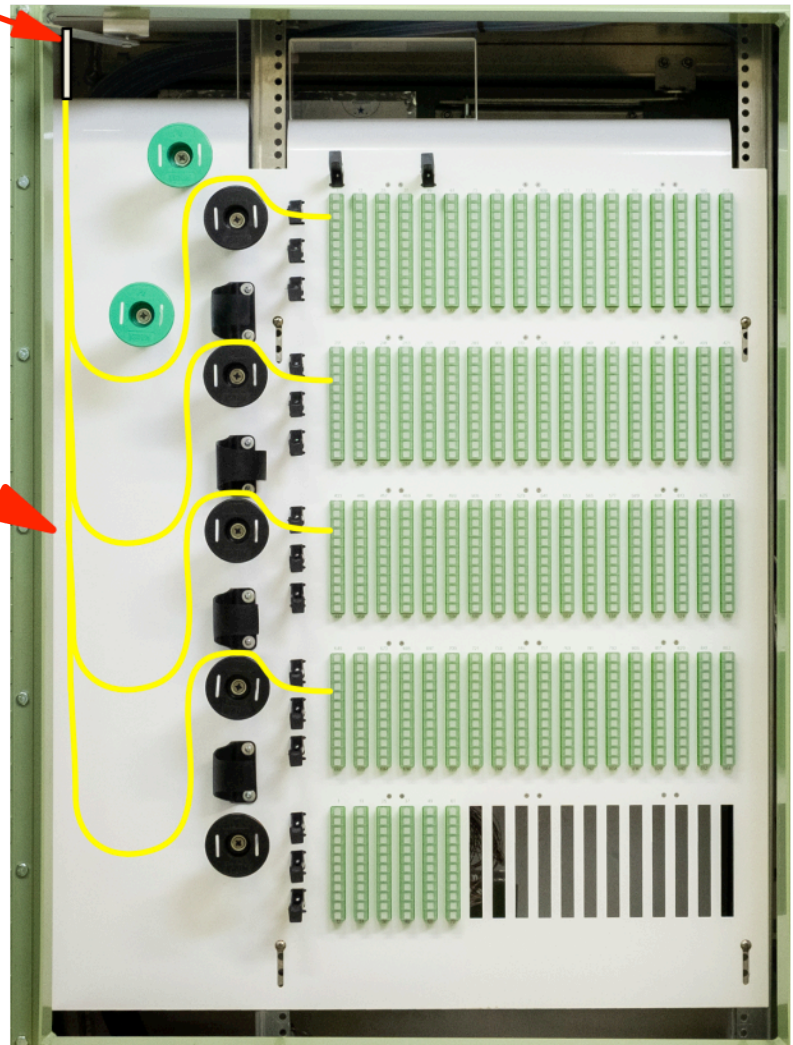

Fig 7. Splitter Output Fiber Routing
3. See Fig 7 for recommended routing. As a rule of thumb, route the output leg down below the distribution row, through the cable clip adjacent to the distribution row and then transition the leg up over the arc positioned next to the distribution row. Proceed with the leg running under the appropriate finger arc attached to the left side of the distribution row and onto the desired port.